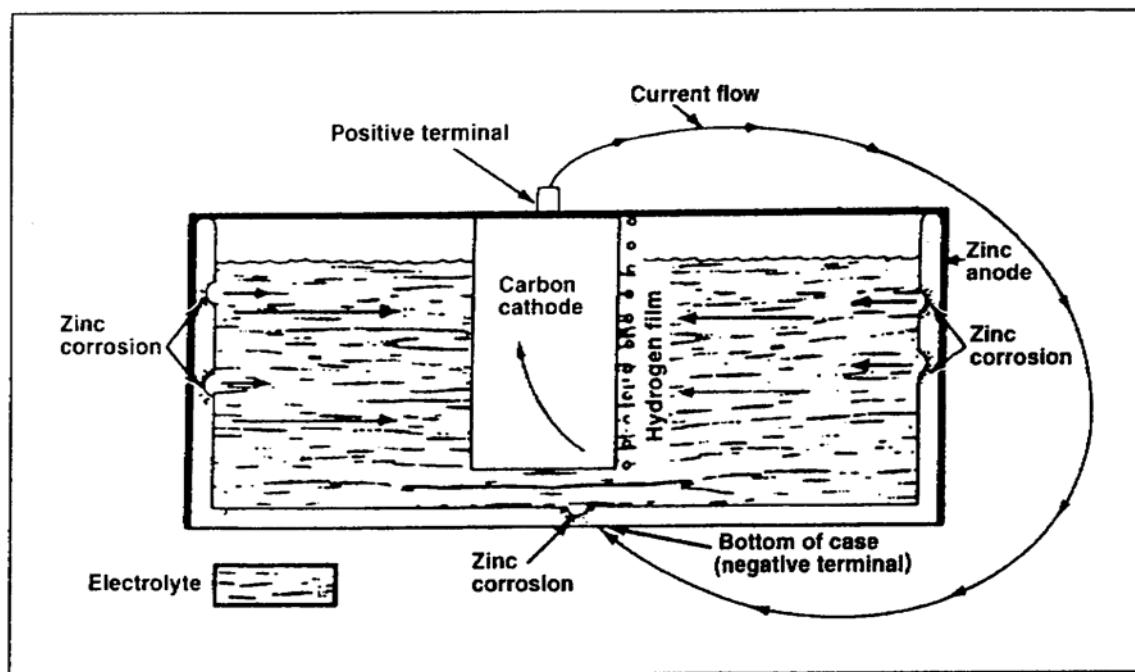

Figure 5-1. Electrochemical-corrosion theory of a battery cell
a. Electrochemical Theory. The most common theory of corrosion is called electrochemical. An electrochemical-corrosion theory is best explained by the action that takes place in a battery cell (Figure 5-1). A galvanic battery cell is produced by placing two dissimilar metals in a suitable electrolyte that is a conducting medium in which the flow of current is accomplished by the movement of matter in the form of ions. The resulting electrochemical reaction develops a potential difference between these two metals, causing one metal to be anodic and the other metal to be cathodic. In a dry cell, the zinc case is the anode (positive terminal) and the carbon rod is the cathode (negative terminal). When an external electrical circuit is completed, current flows from the zinc case into the electrolyte, taking with it particles of zinc. This is an example of galvanic corrosion of the zinc case.